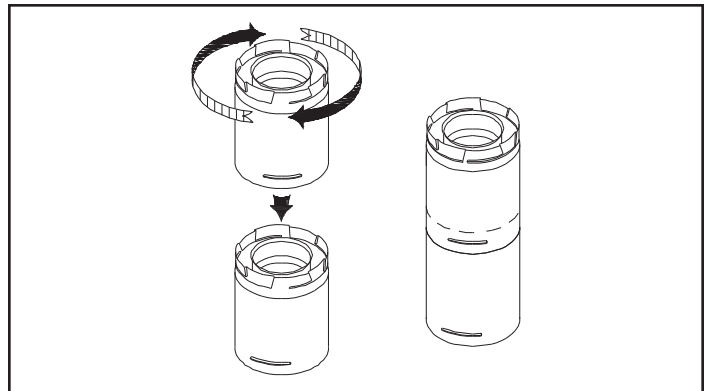

Figure 23
1. Twist-lock procedure: Line up locking lugs on male and female ends of pipe sections. Insert the male end of pipe into the female end until the locking lugs are covered. Twist the female end clockwise an eighth of a turn to lock sections together, Figure 23. Screws are not required to secure the joint, but are acceptable provided they do not penetrate the inner wall of the vent pipe.